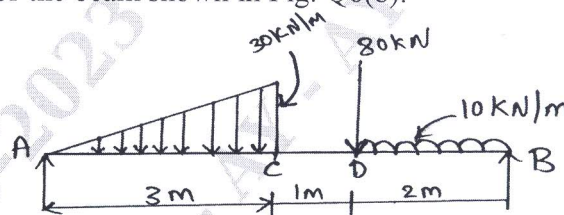

Fig Q6 (b)
- b. Draw SFD and BMD for the beam shown in Fig. Q6(b).